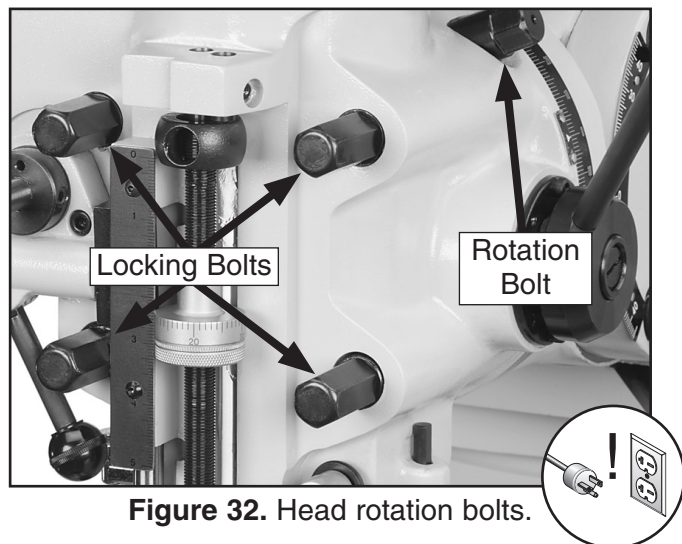

Figure 32. Head rotation bolts.
2. Loosen the four rotation locking bolts shown in **Figure 32**.